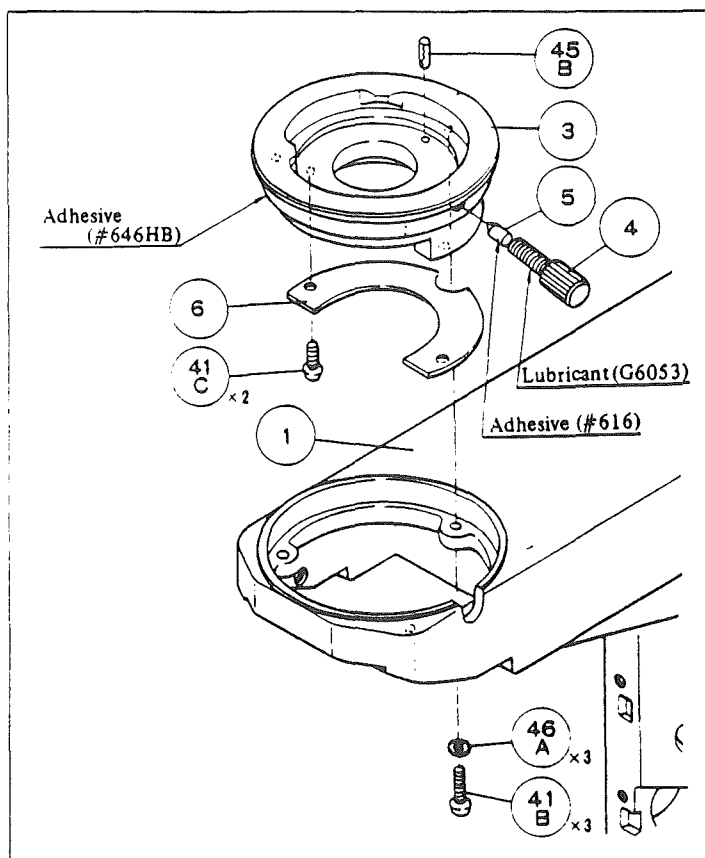

Fig. 31
- 6) Forcibly draw out roller race (male) toward the base. (Fig. 31).
- 7) Releasing screws (43A) × 3, remove roller race (female) (8).
- 9) Release screws (41B) x3, and by striking tube receptacle (3) with a wooden hammer, take off the receptacle (3) from main body. (Fig. 31).